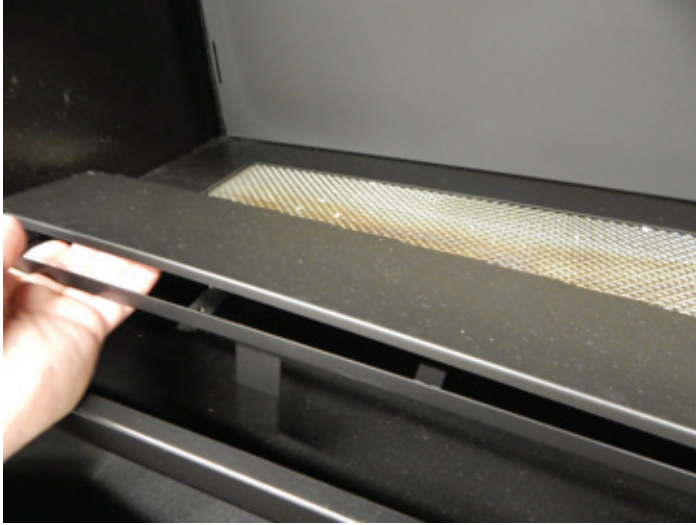

Figure 4
7. Remove the solid metal Cover Plate by simply lifting up and out of the fireplace. This part will not be re-installed. See Figure 4.